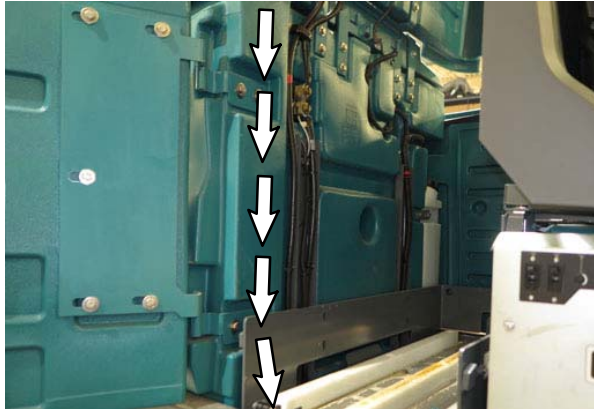
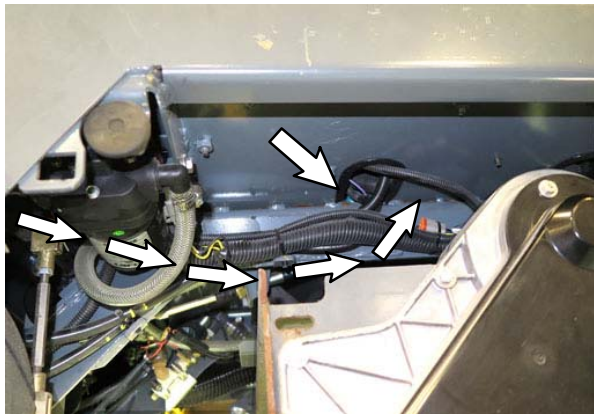

FIG. 7
FIG. 8
7. Route the battery cable (13) red cable and the black cable (14) down towards the floor and then up along the frame of the machine to the hole in the electrical compartment. (Fig. 7 / Fig. 8)